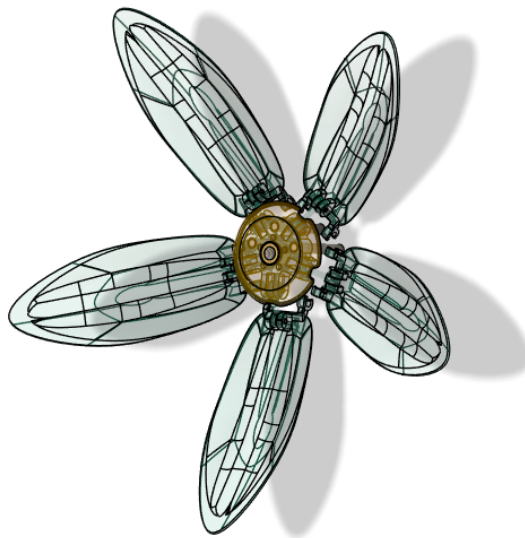

Figure 3: The flower petal and CentreRingV3 assembly, prior to attachment to BaseV3.
8. Press the CentreRingV3 shell piece onto the structure piece. The flower petal assembly should now match Figure 3.